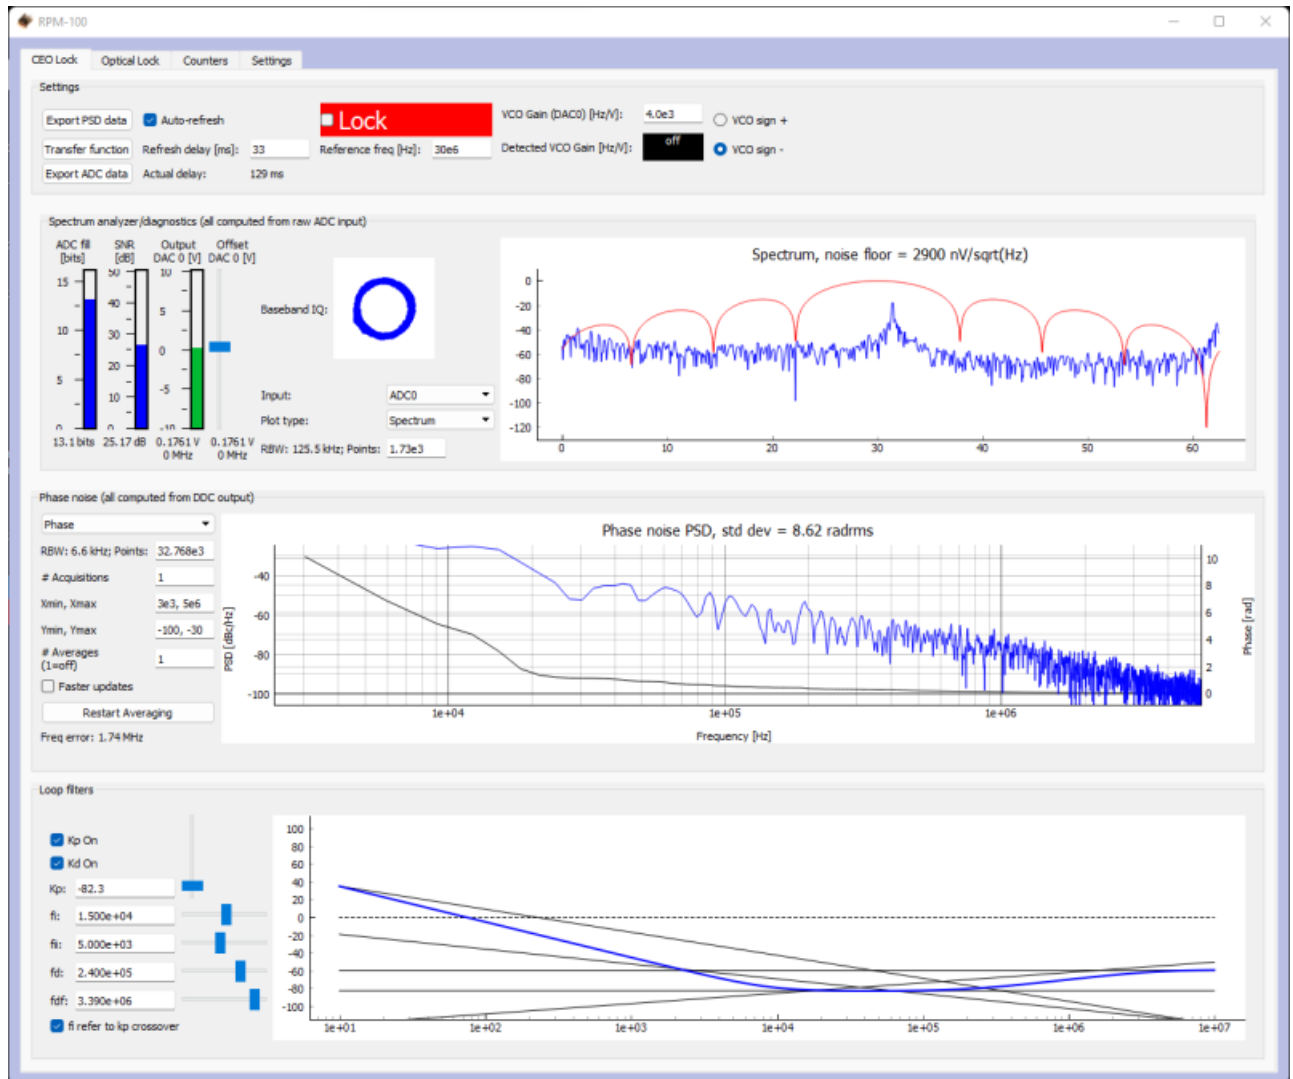

Fig. 9: Centering $f(\text{CEO})$ on reference frequency (Baseband IQ optimization)
1. Navigate to the “CEO Lock” tab and adjust the “Offset DAC 0” slider near the top left by clicking and dragging the slider until the data in the Baseband IQ plot is circular and the beat note is visibly centered under the middle red filter band (figure 9). It is also possible to adjust the FFC-100 oscillator current on its front panel to make this adjustment.